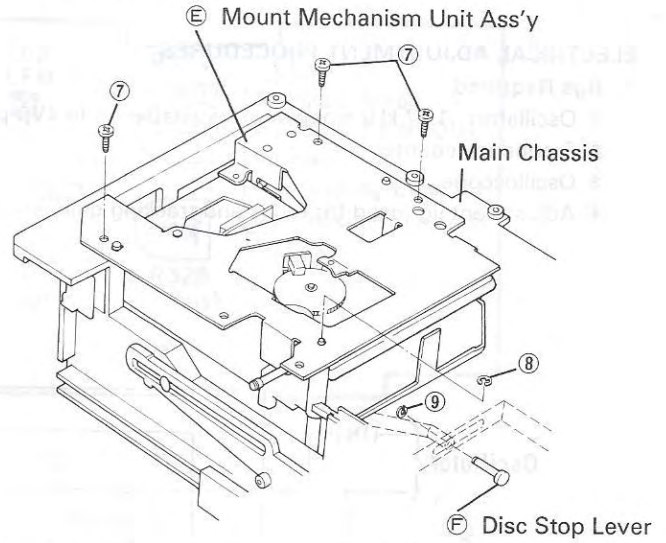

Figure 17
2. Remove one washer ⑨ from disc stop lever ⑥. (Figure 17)
3. Remove three screws ⑦ and one washer ⑧ from mount mechanism unit assembly ⑤, and mount mechanism unit assembly ⑤ will be removed from main chassis. (Figure 17)